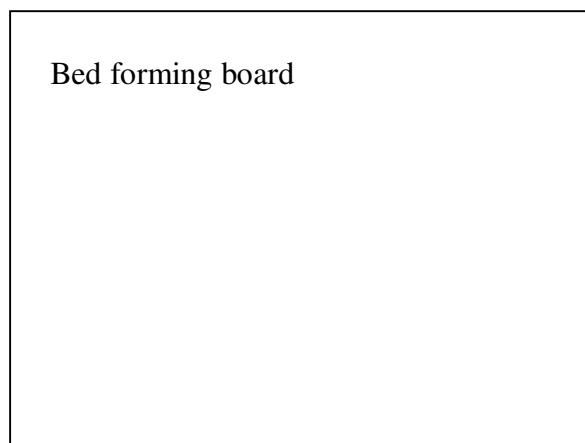

Fig 17
The bed forming board (item 1, fig 17) operates between two ridger bodies. The board creates a flat top on the finished bed. The board extensions (item 2, fig 17) are adjusted in conjunction with the ridger bodies. The position of the ridgers is important to ensure a nicely formed bed. Leaving too much gap between the ridgers and the board extensions will cause a ridge to be formed on top of the finished bed.
The weight (item 3, figure 17) flattens the bed. By adding extra weights the bed can be flattened further. The chains (item 4, fig 17) should be set to allow the board to float when in work and also to support the board when the planter is raised. To adjust, reposition the shackle (item 5, fig 17).